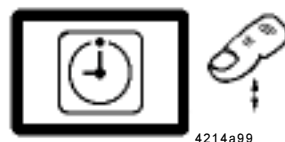
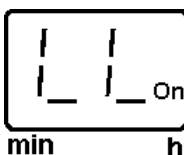

Fig. 30 - Acknowledging a flashing fault signal „LL“
Fig. 31 - Acknowledged fault signal „LL“
\* Before filling the reservoir, press the key, fig. 30, to acknowledge the low-level indication.
- By pressing the key (fig. 30) the flashing light \* LL \* is changed into a continuous light (fig. 31).